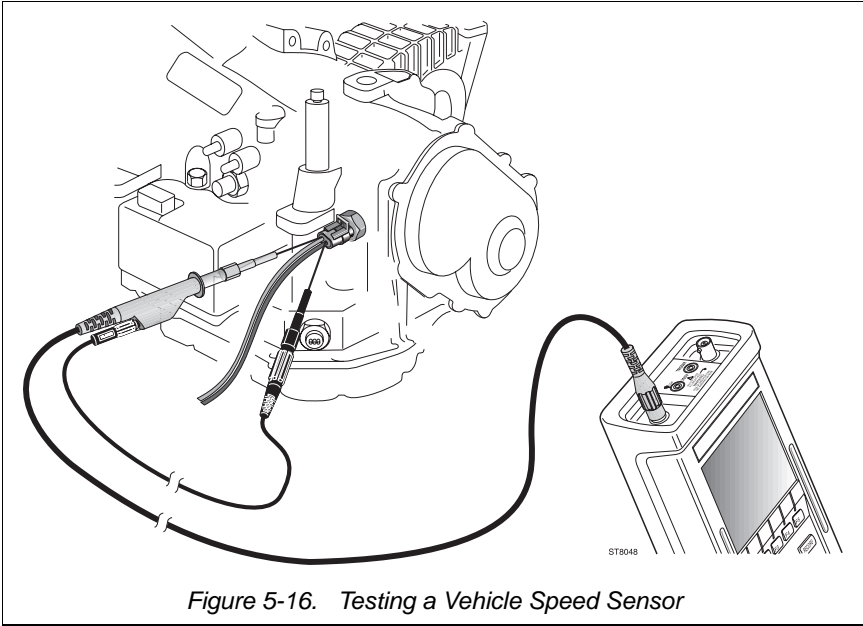

Figure 5-16. Testing a Vehicle Speed Sensor
①
②
- ③ Connect the test leads as displayed by the test tool's Connection Help and shown in Figure 5-16.
④  Starts the Vehicle Speed Sensor test.